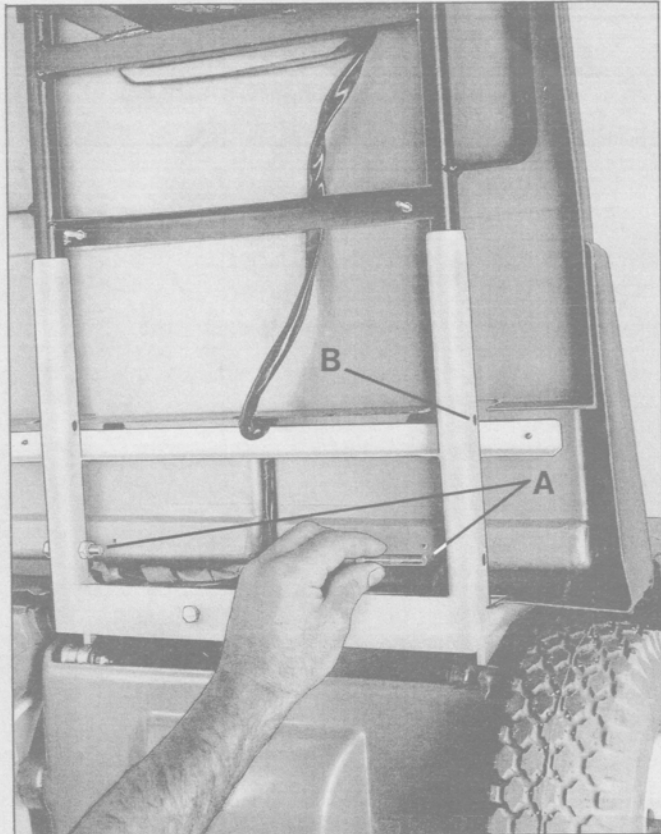

Fig. 16
- 3) Remove the two bolts A (Figure 16).